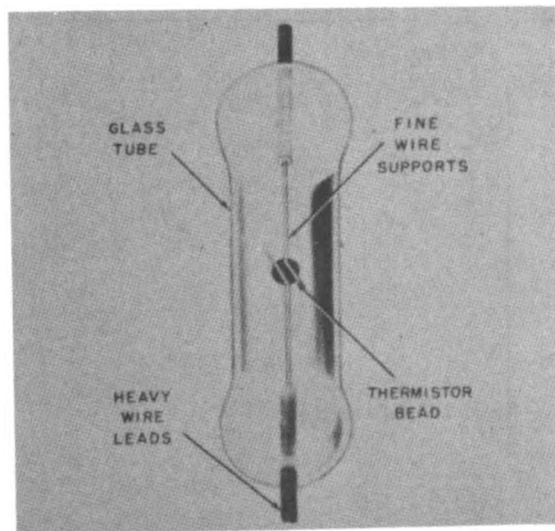
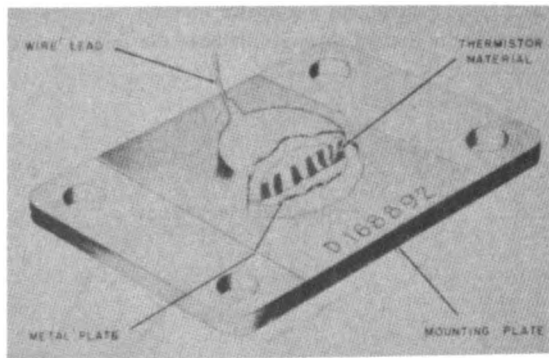

Figure 2-20. Bead Thermistor
Figure 2-21. Disc Thermistor
1. There are two types of thermistors used in the Test Set. The bead thermistor (see figure 2-20) used for r-f power measurement has a small mass and is affected by the three changes mentioned in the preceding paragraph. The disc thermistor (figure 2-21) used in compensating networks has a large mass. Its resistance is relatively insensitive to the current flowing through it and is primarily dependent upon the ambient tempera-